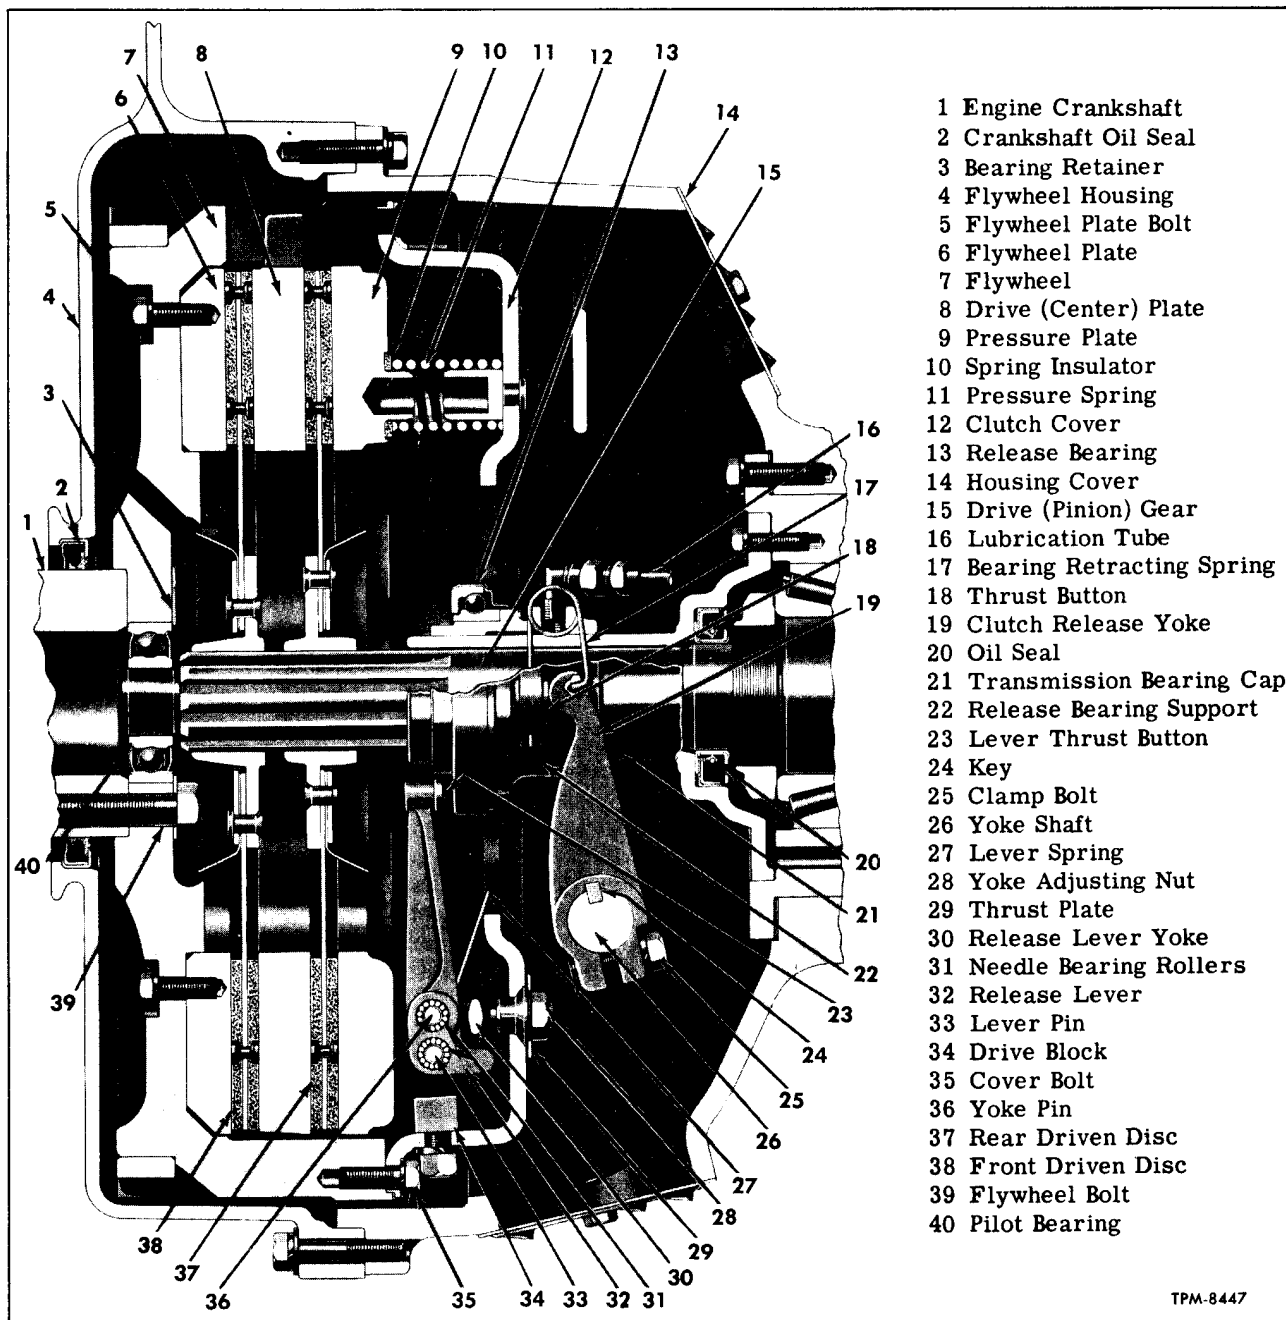

Figure 7—Cross Section of Clutch Installed
Key numbers in text refer to figure 7.
Key numbers in text refer to figure 7 unless otherwise indicated.
8. Test pressure springs (11, fig. 7) and replace any springs which are not within specifications.